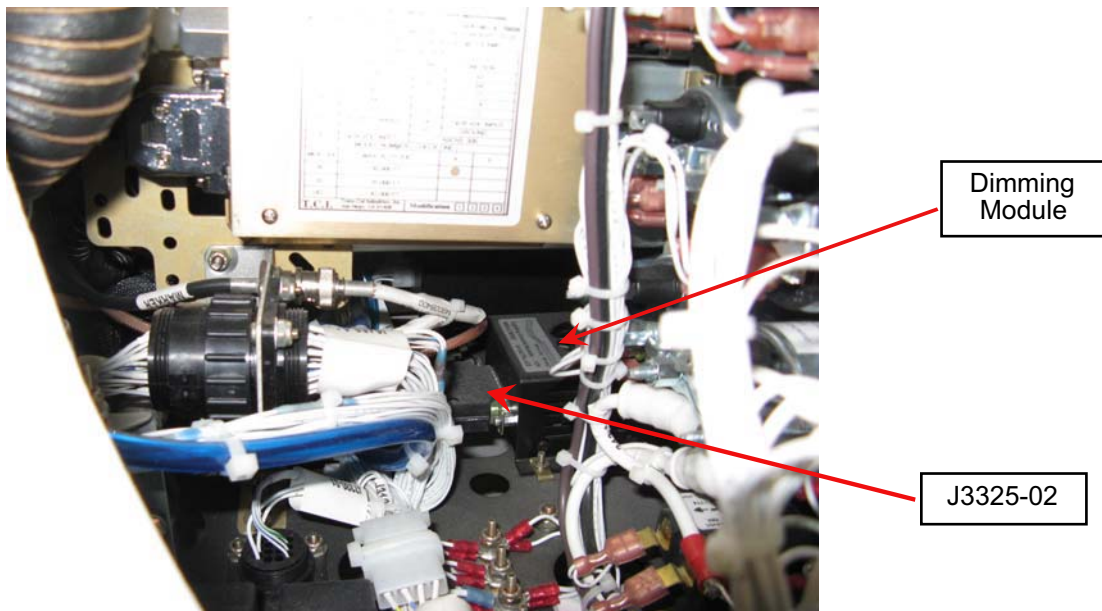

Figure 8
- 10.15 Remove the backshell from the existing instrument panel harness connector J3325-02, located below radios. See Figure 8 for location of J3325-02 connector.